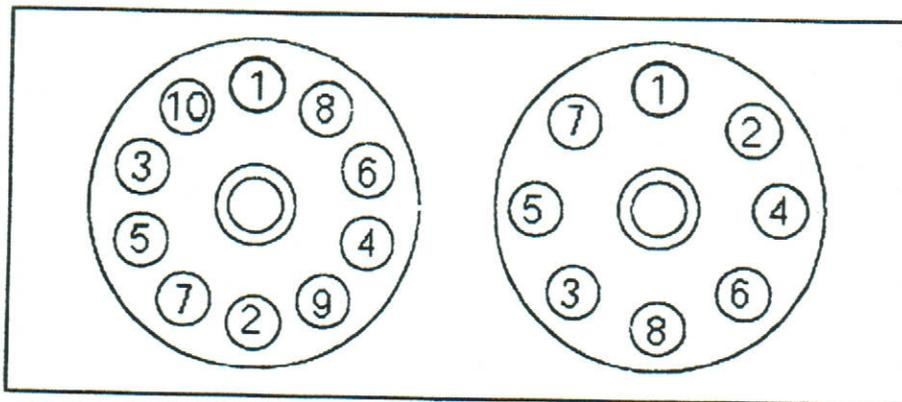

Figure 1: Nut Tightening Sequence for Hub Piloted Disc Wheels
- ii. Retighten nuts using the crisscross sequence shown below in Figure 1 using an impact wrench or wrench.